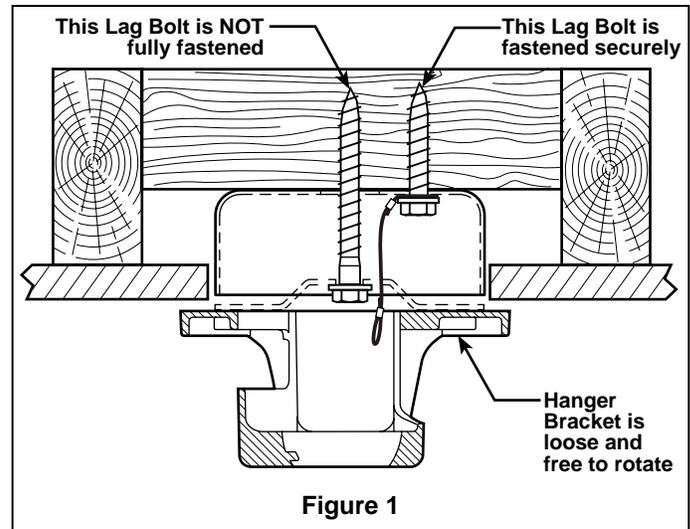

Figure 1
3. Separate and untwist the three motor leads and safety cable. Route the motor leads and safety cable through the bottom end of the extension pole as shown (Figure 1).
1. **Attaching Ceiling Support Cable (Figure 1):** Drill $\frac{1}{4}$ " pilot hole through one of the four corners of the junction box, into the ceiling joist or structural member. Securely attach the ceiling support cable with $\frac{3}{8}$ " x 2" lag bolt and flat washer.
NOTE: Ceiling support cable must be fastened between flat washer and junction box with 2" lag bolt (Figure 1).
2. **Preliminary Hanger Bracket Attachment (Figure 1):** Drill $\frac{1}{4}$ " pilot hole through the center of the junction box, into the ceiling joist or structural member. Loosely attach hanger bracket to the ceiling structure using $\frac{3}{8}$ " x 5" lag bolt and flat washer. **DO NOT FULLY TIGHTEN THE LAG BOLT YET!** Hanger Bracket should be free to rotate.
The fan must be hung with at least 7' of clearance from floor to blades (Figure 1)